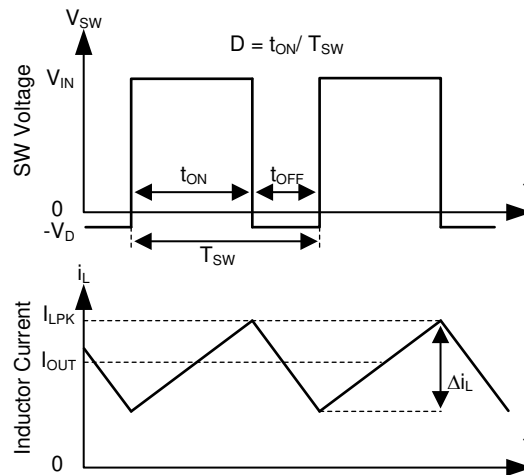

Figure 38. SW Node and Inductor Current Waveforms in Continuous Conduction Mode (CCM)
The following operating description of the TPS2583x-Q1 will refer to the Functional Block Diagram and the waveforms in Figure 38. TPS2583x-Q1 is a step-down synchronous buck regulator with integrated high-side (HS) and low-side (LS) switches (synchronous rectifier). The TPS2583x-Q1 supplies a regulated output voltage by turning on the HS and LS NMOS switches with controlled duty cycle. During high-side switch ON time, the SW pin voltage swings up to approximately V_{IN} , and the inductor current i_L increase with linear slope $(V_{IN} - V_{OUT}) / L$. When the HS switch is turned off by the control logic, the LS switch is turned on after an anti-shoot-through dead time. Inductor current discharges through the LS switch with a slope of $-V_{OUT} / L$. The control parameter of a buck converter is defined as Duty Cycle $D = t_{ON} / T_{SW}$, where t_{ON} is the high-side switch ON time and T_{SW} is the switching period. The regulator control loop maintains a constant output voltage by adjusting the duty cycle D . In an ideal buck converter, where losses are ignored, D is proportional to the output voltage and inversely proportional to the input voltage: $D = V_{OUT} / V_{IN}$.